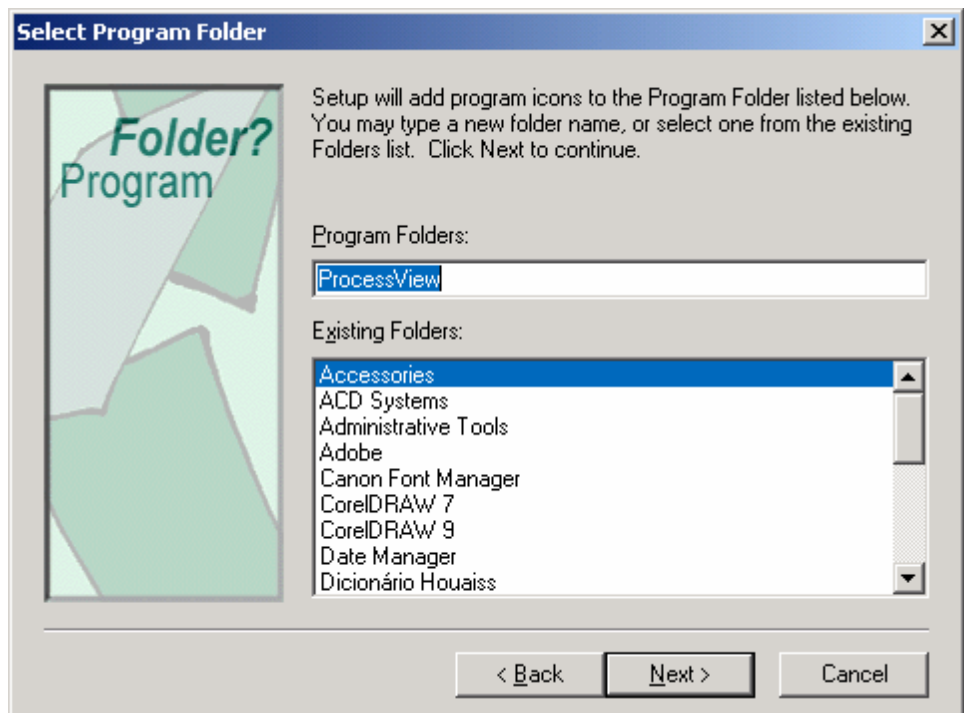

Figure 2.8. Selecting the Program Folder
12. The **Select Program Folder** dialog box appears, as shown in **Figure 2.8**. You can choose the program folder in which the software will be installed. The default folder in the **Program Folder** field is Smar ProcessView. You can keep this default, select an existing folder from the list, or type a new folder name in the **Program Folders** field. Click **Next** to continue.